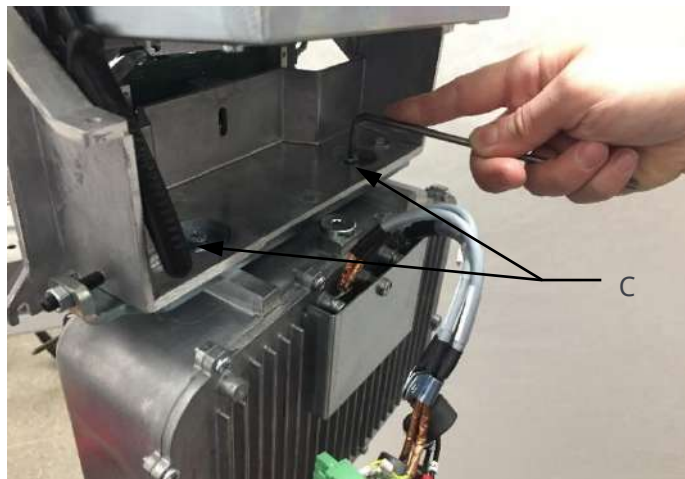

Figure 55
7. Mount the new tubehead, taking care to push it with one hand in the direction of the sensor while tightening the screws "C" (Figure 55).